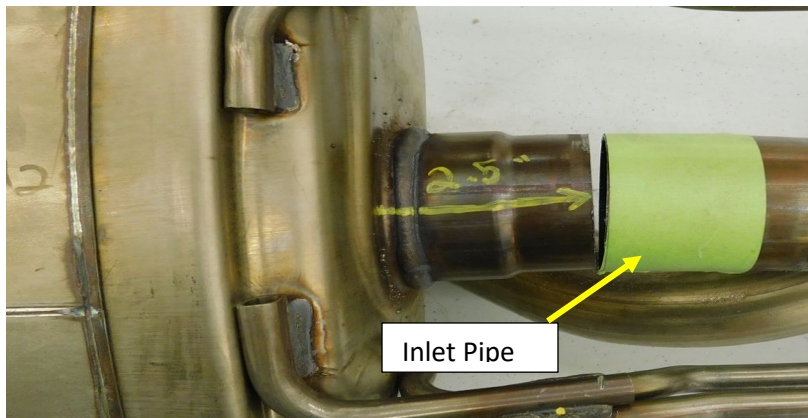

Figure .1
5. Mark the muffler inlet pipe as shown in **Figure. 1**